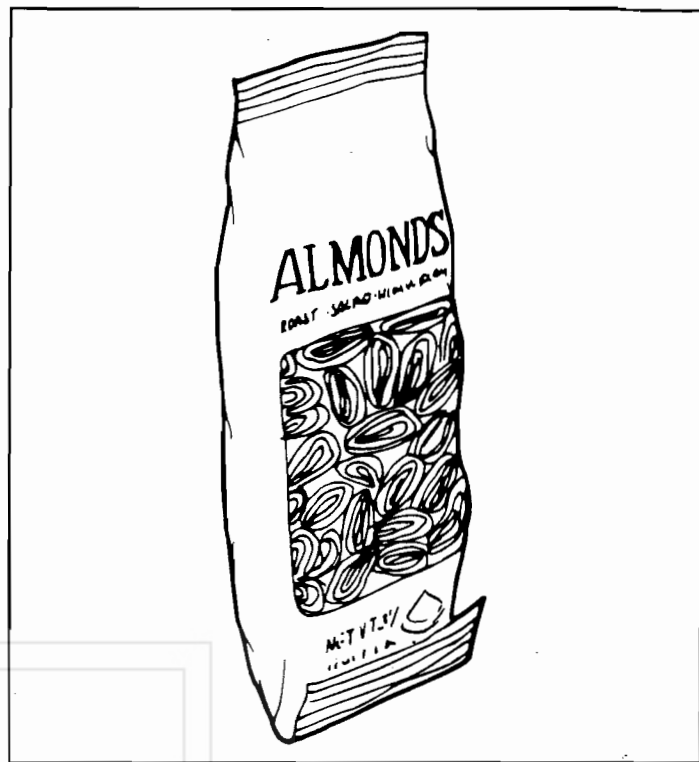

Figure 1.8: Fold bagged items bottom edge forward and up.
**INSTALL PROPER PRICE TABS** into price tab holder for each selection in the main product area. (See Figure 1.8)